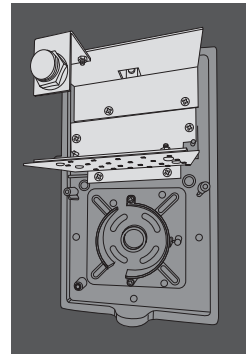
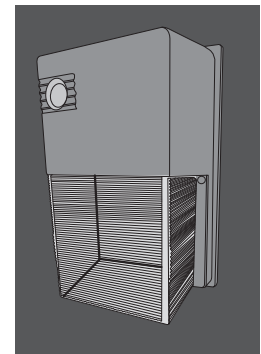

Figure 3
Figure 4
5. Line up the back plate in desired location and mount securely. (Figure 3)
- Fire wire (L) to the Black line
- Neutral wire (N) to the White line
- Ground wire (G) to the Yellow line
7. Put the cover on and lock the cover (Figure 4)